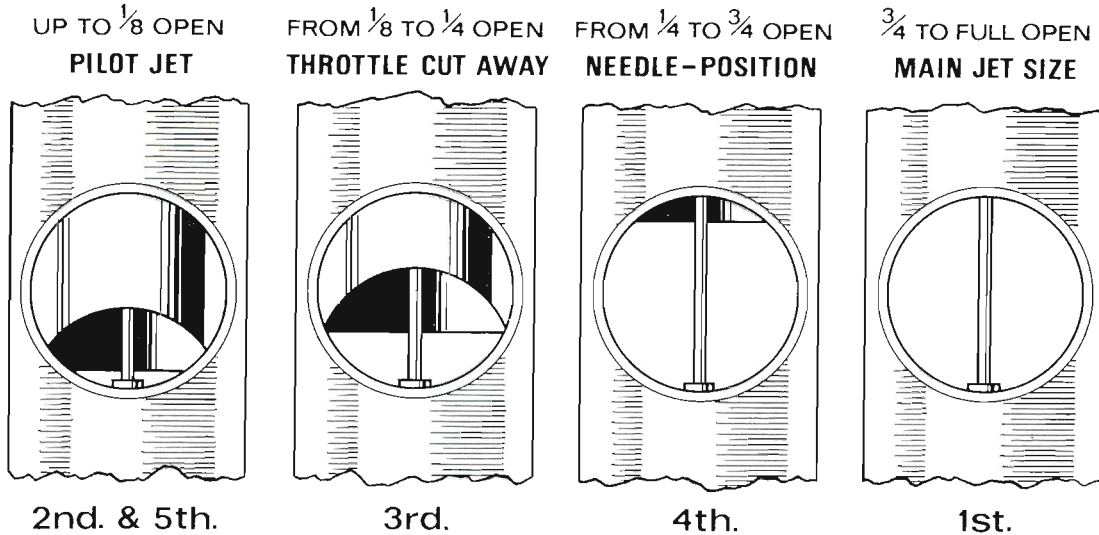

Fig. C2. Sequence of adjustment
(Positions 1, 2, 3 and 4 refer to positions of throttle openings as shown in Fig. C2, Section C7).
1st. **Main Jet** with throttle in position 1 (Fig. C2). If at full throttle the engine runs "heavily", the main jet is too large. If, at full throttle, the engine seems to have better power when the throttle is eased off or the carburetter intake is slightly covered, then the main jet is too small.
**2nd. Pilot Mixture** (Fig. C2) with throttle in positions 2 and 5. With the engine idling too fast, the twist grip shut off and the throttle shut down on to the throttle adjusting screw: (1) Screw out the throttle adjusting screw until the engine runs slower and begins to falter, then screw pilot air adjusting screw in or out, to make engine run regularly and faster. (2) Now gently lower the throttle adjusting screw until the engine runs slower and just begins to falter, adjust the pilot air adjusting screw to get best slow-running, if this second adjustment leaves the engine running too fast, go over the job a third time.
**3rd. Throttle Cut-away** with throttle in position 3 (Fig. C2). If, as you take off from the idling position, there is spitting from the carburetter, slightly richen the pilot mixture by screwing in the air screw. If this is not effective, screw it back
**4th. Needle** with throttle in position 4 (Fig. C2). The needle controls a wide range of throttle openings and also the acceleration. Try the needle in as low a position as possible, viz. with the clip in a groove as near the top as possible; if acceleration is poor and with the carburetter inlet partially covered, the results are better, raise the needle by two grooves; if very much better try lowering the needle by one groove and leave it where it is best. If mixture is still too rich with clip in groove number 1 nearest the top, the needle jet probably wants replacement because of wear. If the needle itself has had several years' use replace it also.